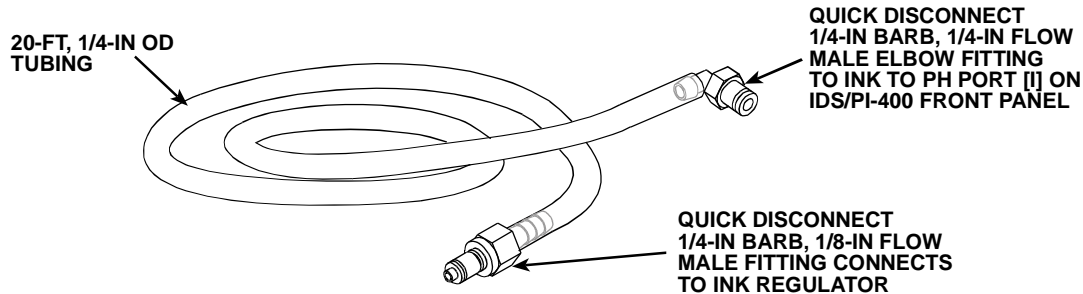

Figure 13 INK TO PH Tubing Assembly (9600-075)
- 9600-779 ink from ph tubing assembly for each IV printhead (*consists of Part "A" and Part "B", see Figures 13 and 18*)
- 9600-075 ink to ph tubing assembly for each IV printhead (*Fig. 13*)
1. Start with the 20-ft length of 1/4-in INK TO PH tubing (9600-075) with a quick disconnect male elbow fitting at one end and a quick disconnect male fitting at the other end (*Fig. 13*). The end with the male elbow fitting connects to the INK TO PH port [I] on the IDS/PI-400 front panel. The other male fitting connects to the female fitting on the ink regulator. Note: Do not trim or cut the 20-ft tubing length. Excess printhead pressure variation will result.